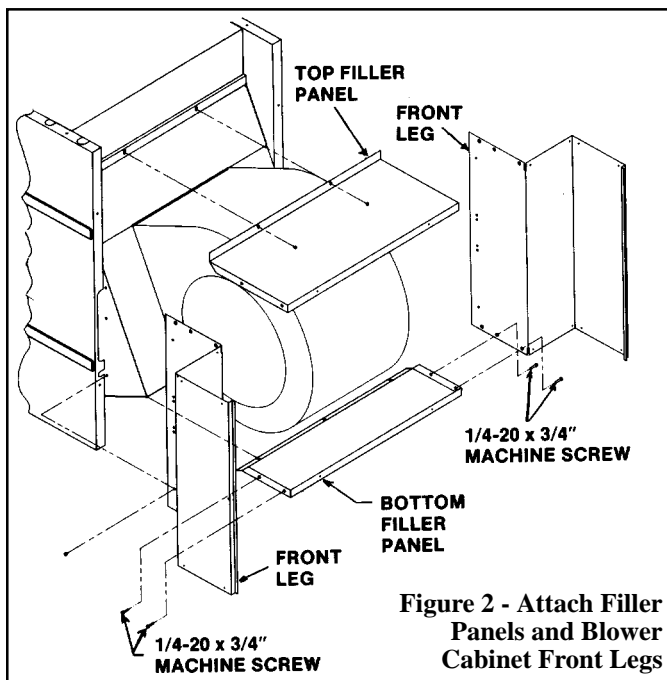

Figure 2 - Attach Filler Panels and Blower Cabinet Front Legs
Install Bottom Filler Panel (See Figure 2) - Locate the holes in the bottom of the blower adapter back. Using these holes, install the bottom filler panel with the rear flange up.
3. Install Cabinet Front Legs on Heater (See Figure 2)